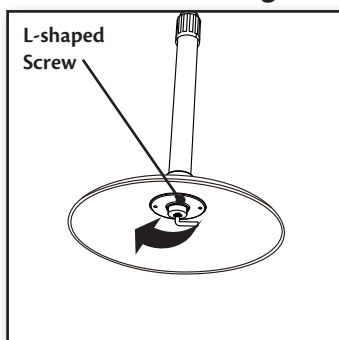

Figure 8
3. Insert the telescopic pole into the top of the base. Install the metal ring and L-shaped screw into the threaded hole in the bottom of the pole to secure the pole to the base. Figure 8.